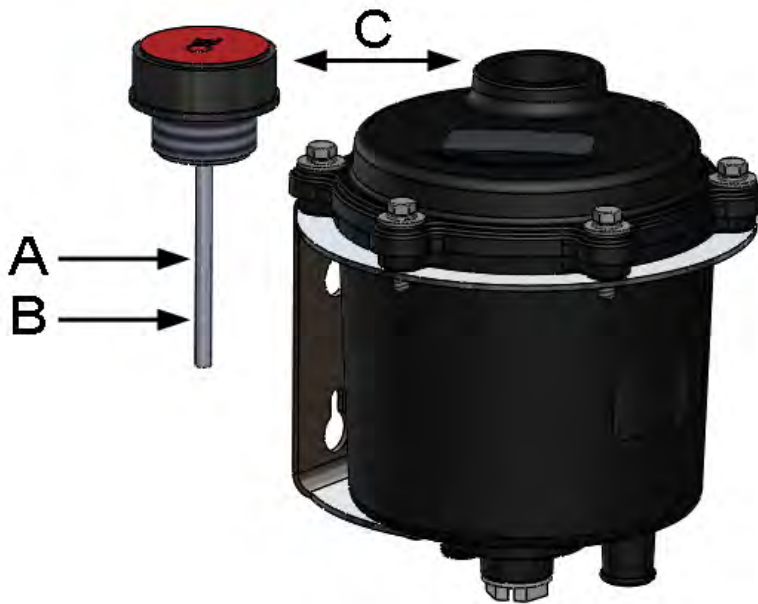
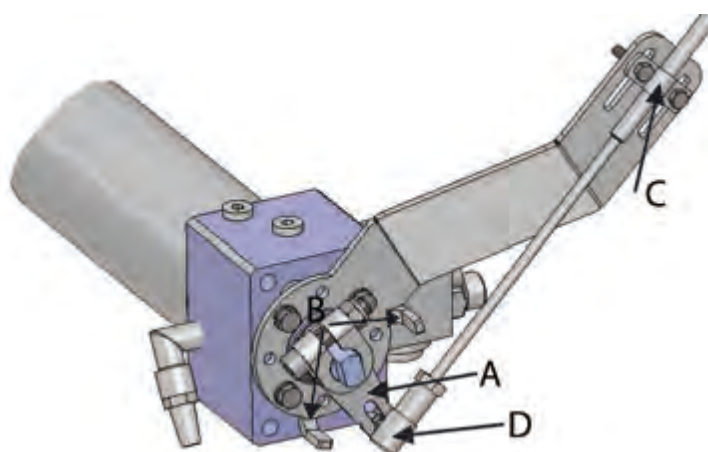

Figure 33. Checking the oil level
Figure 40. Attaching the operating lever
The system must have the right amount of oil. If you need to add oil to the system, add it in the oil reservoir through the cap (figure 33, point C). There is a dipstick on the reservoir cap with markings for maximum and minimum oil levels (figure 33). The type of oil to use is described in appendix 2. *Oil recommendations*, page 52.
5. Place the lever (figure 40, point A) on the operating shaft so that it lies between the limiters on the support plate (figure 40, point B).
6. Attach the control cable with a fastener (figure 40, point C) to the support plate and with an angle joint (figure 40, point D) to the lever ball screw.
Fill the reservoir with oil before you start the engine. After you start the engine and put it into forward gear, the oil is transferred from the reservoir into the system and the pump automatically removes air from the system. If the oil level decreases in the reservoir, add some oil. There is a dipstick in the reservoir that you can use to check the oil level (figure 33). Occasionally move the hydraulic cylinder's operating lever back and forth (figure 40, point A) so that the cylinder fills with oil.